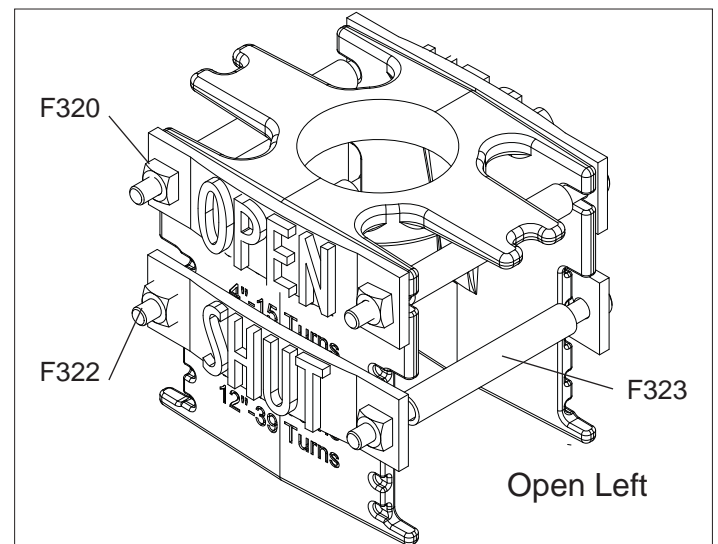

Fig. 2B
For an "open left" valve the "OPEN" sign should be mounted above the "SHUT" sign. (Fig. 2B) For an "open right" valve the "SHUT" sign should be mounted above the "OPEN" sign. (Fig. 2C).
3. If the Post Indicator is to be mounted on an open left valve, the "OPEN" Plate (F321) remains in the top position of the Target (F318). (See Fig. 2B).
NOTE: For an "open left" valve the "OPEN" sign should be mounted above the "SHUT" sign. (Fig. 2B) For an "open right" valve the "SHUT" sign should be mounted above the "OPEN" sign. (Fig. 2C) In September 2010, American AVK switched series 34 post indicators from a preset 4-inch valve to a preset 6-inch valve. Refer to "ADJUSTING THE TARGET (FOR SERIES 3400 TYPE INDICATORS):"